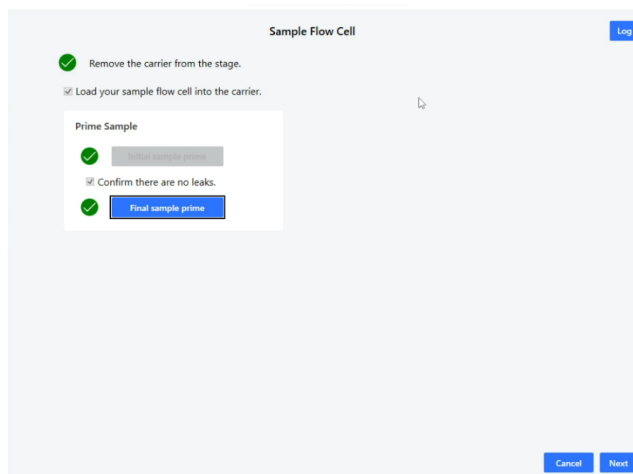

Figure 6.11. Dialog window, Sample Flow Cell complete.
7. The Sample Flow Cell dialog box is complete. (See Figure 6.11.)